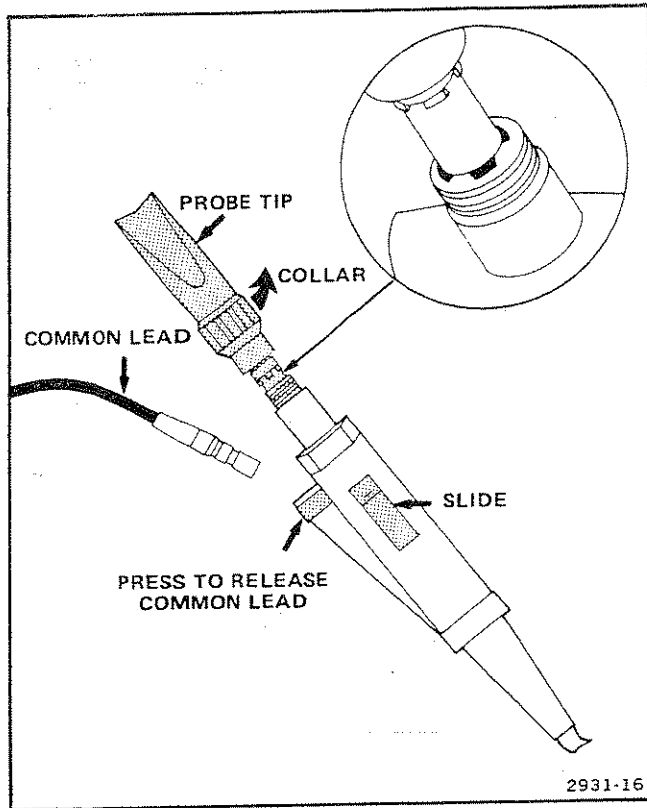

Figure 2-7. Setting the 3000-V probe tip angle and replacing the common lead.
The angle of the 3000-V probe tip may be rotated in 90° increments, if necessary, to make it easier to attach the probe to the circuit under test. To change the probe tip angle, refer to Figure 2-7 and perform the following steps:
5. Move the slide forward to the position shown Figure 2-7 and verify that there is approximately one-eighth inch clearance between the indexing guides on the shaft of the probe tip and the threaded portion of the probe body. If necessary, loosen the probe tip to achieve the correct clearance.
To replace the common lead on the 3000-V Probe, press and hold the release point shown in Figure 2-7. Pull the lead out of the probe body and remove pressure from the release point. Install the new common lead by pushing the lead end into the probe body until an audible click is heard.